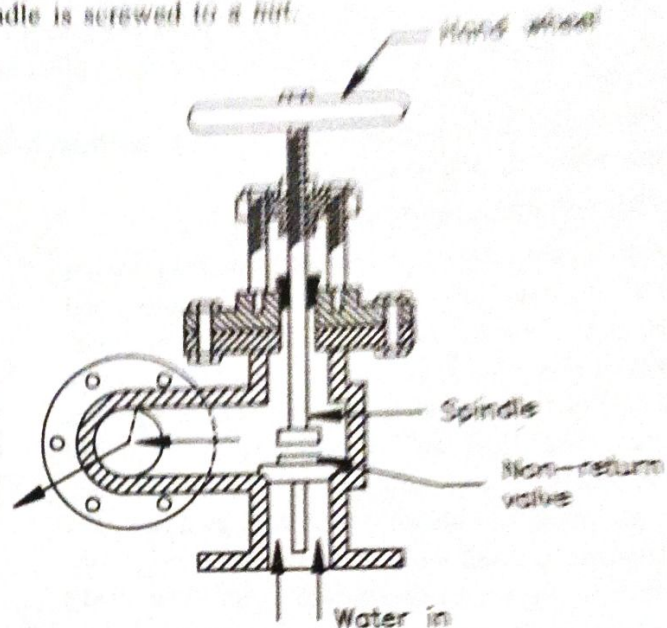

Fig. 10.6. Feed check valve.
A commonly used feed check valve is shown in Fig. 10.6. It is fitted to the shell slightly below the normal water level of the boiler. The lift of the non-return valve is regulated by the nut portion of the spindle (E) which is attached with the hand wheel. The spindle can be moved upward or downward with the help of hand wheel as the upper portion of the spindle is screwed to a nut.